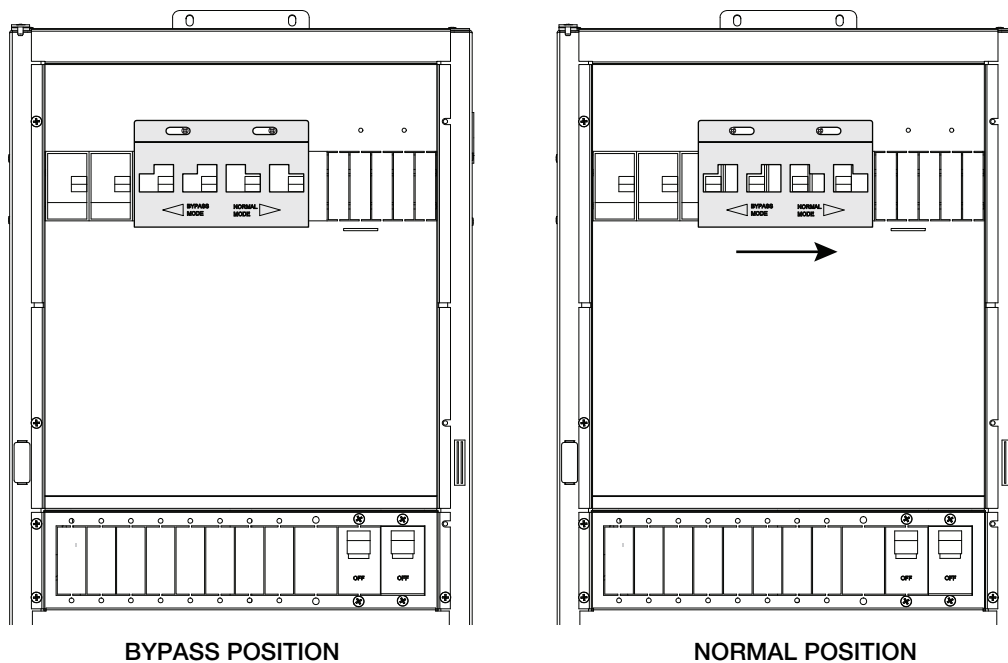

Figure 3-26 Installing the custom designed bypass interlock plate
- Install the custom designed bypass interlock plate, as shown in Figure 3-26 on page 3-46.
2. Ensure the breakers are in the down position and place the bypass interlock plate over the breakers, as shown in Figure 3-26, and secure it in place with the hardware provided.
3. To set it in Normal position, slide the bypass plate to the right, as shown in Figure 3-26.
10. Install the custom designed bypass interlock plate, as shown in Figure 3-26 on page 3-46.